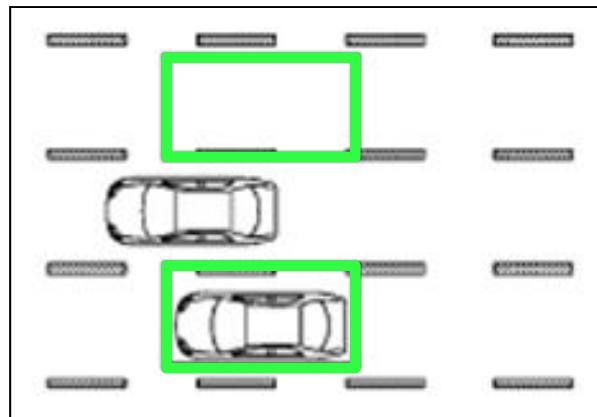

Figure 1
- The customer states the Blind Spot Warning indicator does not illuminate while driving when there is a vehicle in one of the detection zones (outlined in green in Figure 1).